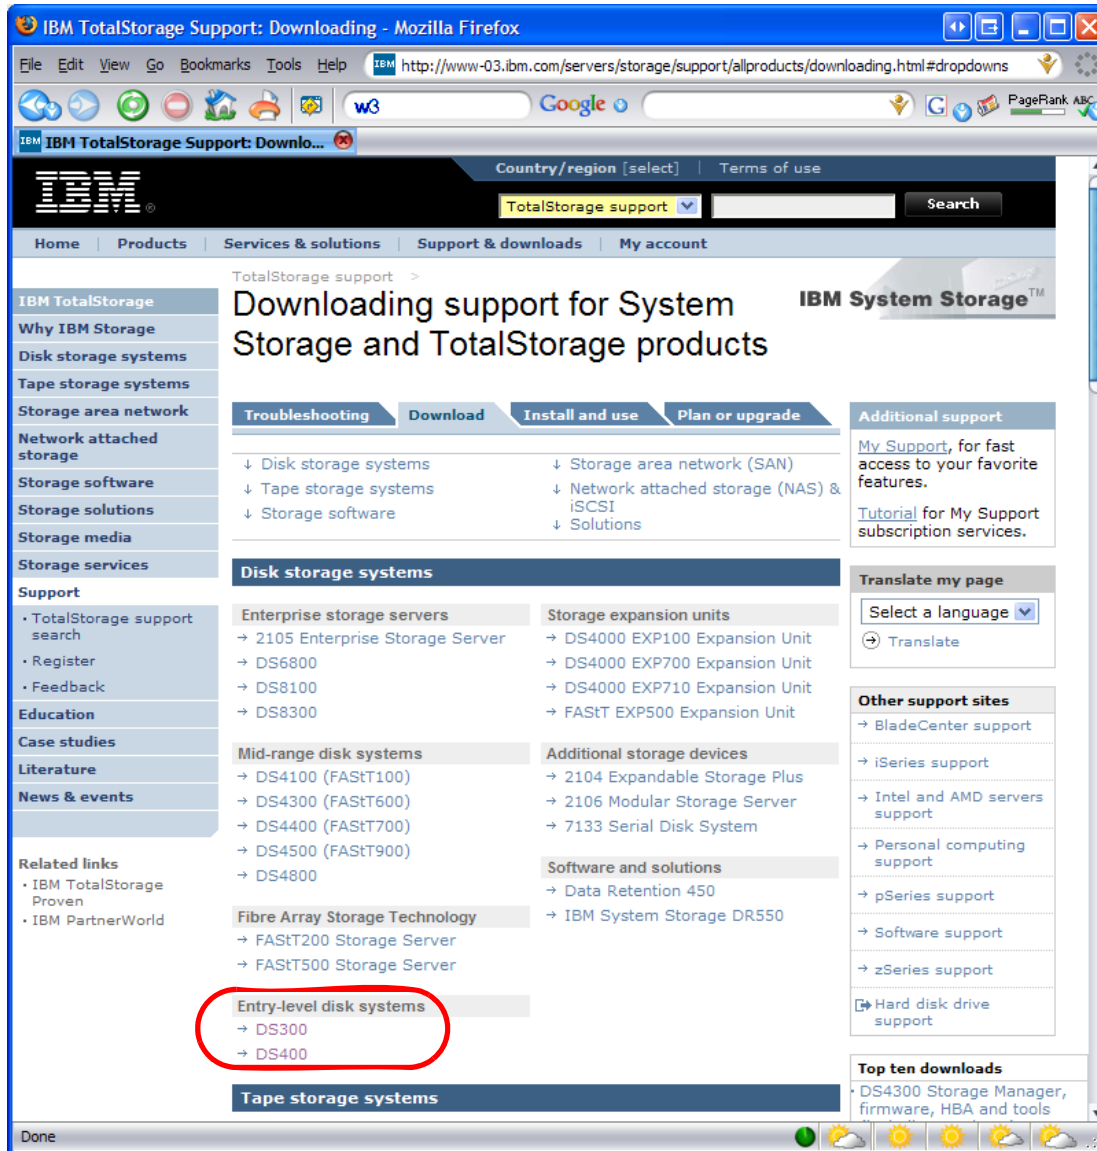

Figure C-3 Select DS300 or DS400 download support
4. The page refreshes and allows the selection of the specific storage product. Select DS300 or DS400 from the **Entry-level disk systems** heading as shown in Figure C-3 on page 627.